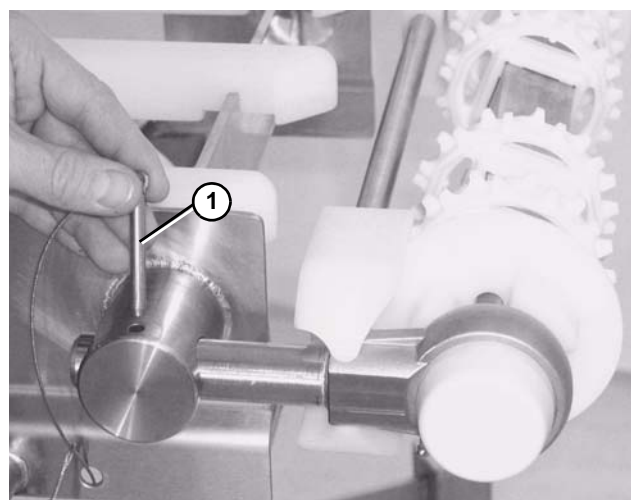

Figure 8
3. Insert the pull pins (**Figure 8, item 1**).